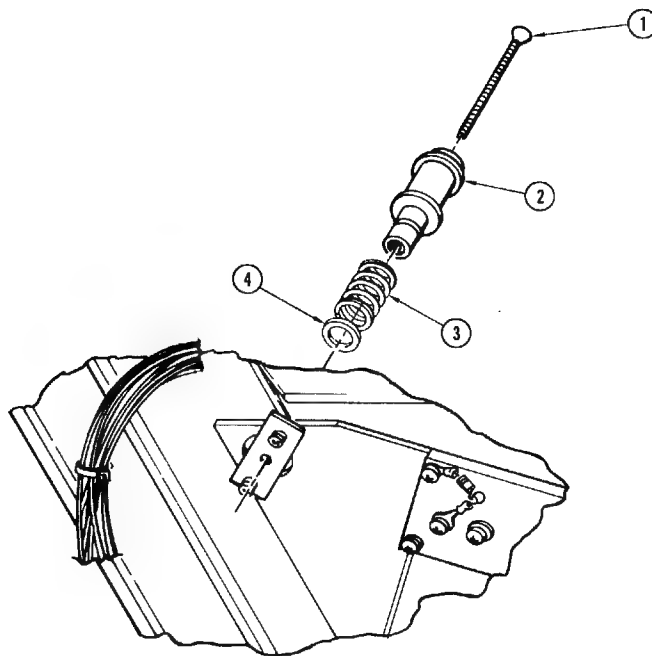

Figure 4-11. Roller Guide Assembly
4-25. **Removal and Replacement of Assembly (Figure 4-11).** Place the transport in operator maintenance access position in accordance with instructions in paragraph 4-2 and proceed as follows:
- a. Remove attaching screw (1, Figure 4-11), leaving shims (4) and spring (3) in place, remove roller guide assembly through top of top plate, saving attaching parts for reassembly.
- b. Install replacement roller guide (2), using original attaching parts.